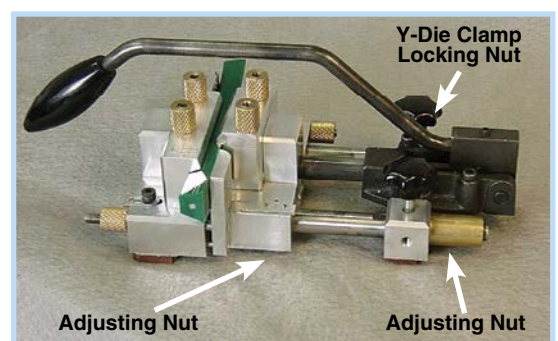

Fig. 26
1. Loosen the two Clamp Base Locking Nuts (Fig. 26).
2. Loosen the two Clamp Base Adjusting Nuts (Fig. 26).
6. Tighten the two Clamp Base Locking Nuts (Fig. 26).